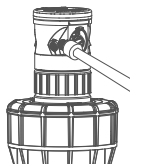

Figure 5
- 4 To install the nozzle, engage the tool to the nozzle. Then carefully align the nozzle to the housing. Use care to prevent cross-threading and turn clockwise (Figure 5).